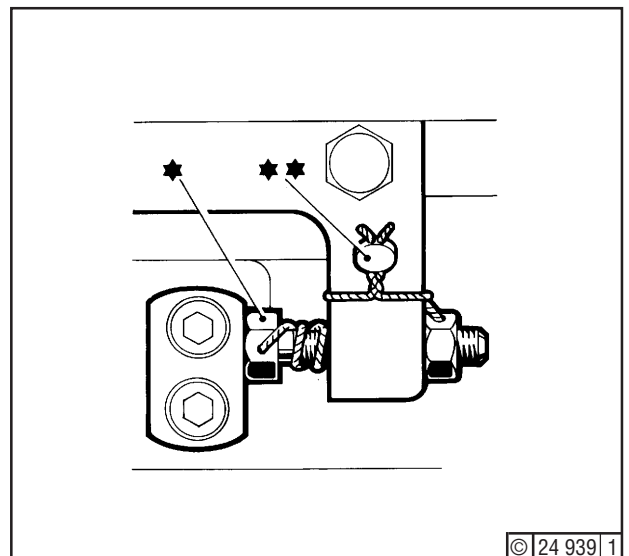

Fig. 19
13. Check that linkage abuts at top screw (*) - Fig. 19 - when pushed to maximum load (point A13). Upon completion of the setting, lead-seal the engine output (**).